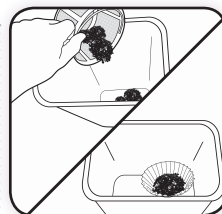

Figure 20
- 14 After the used coffee grounds have cooled, carefully open the Front Loading Brew Basket door and remove the paper or reusable filter and discard the grounds. (Figure 20)